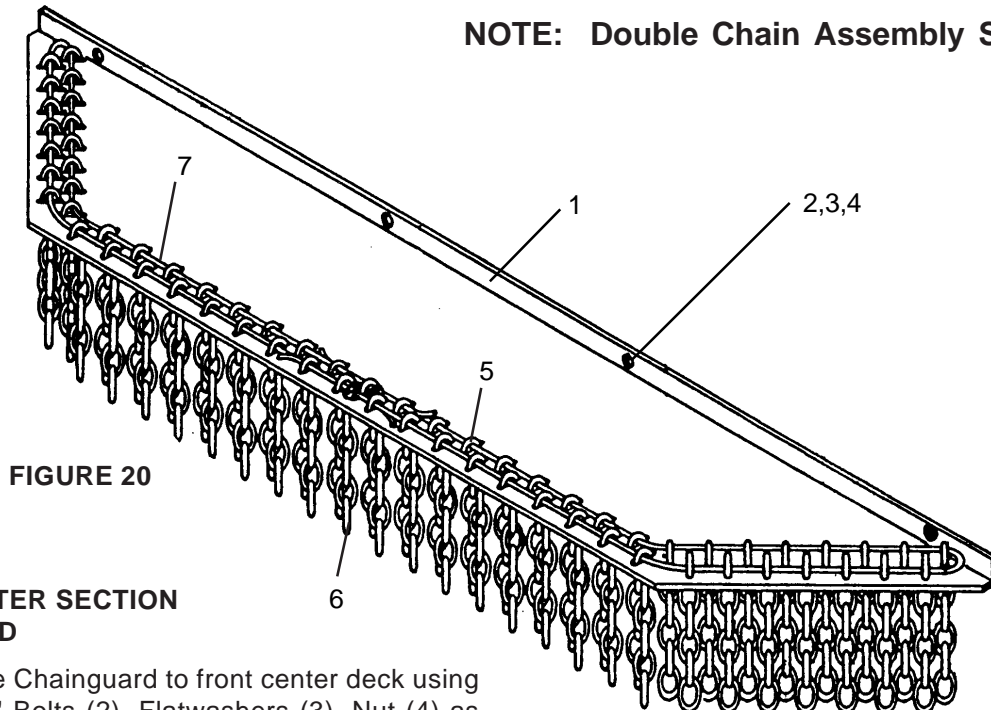

FIGURE 20
Attach Double Chainguard to front center deck using 7/16" x 1-1/2" Bolts (2), Flatwashers (3), Nut (4) as shown in **Figure 20**. Individual chain links (6) should be inserted into Chainguards (1) and held with Cable (7) and Cable Clamp (5).